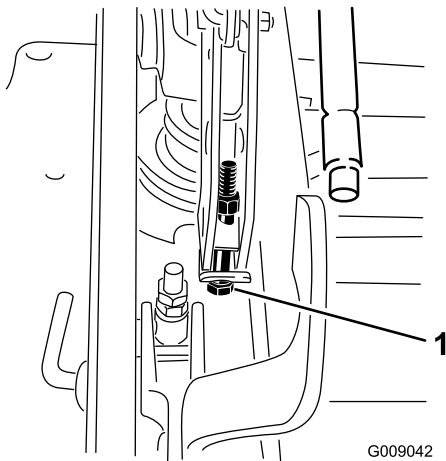

**Figure 93**
- 11. To adjust the single-point system, loosen the 2 bolts at the bottom of the height-of-cut plate (Figure 93).
13. Tighten the 2 bolts at the bottom of the height-of-cut plate (Figure 93).